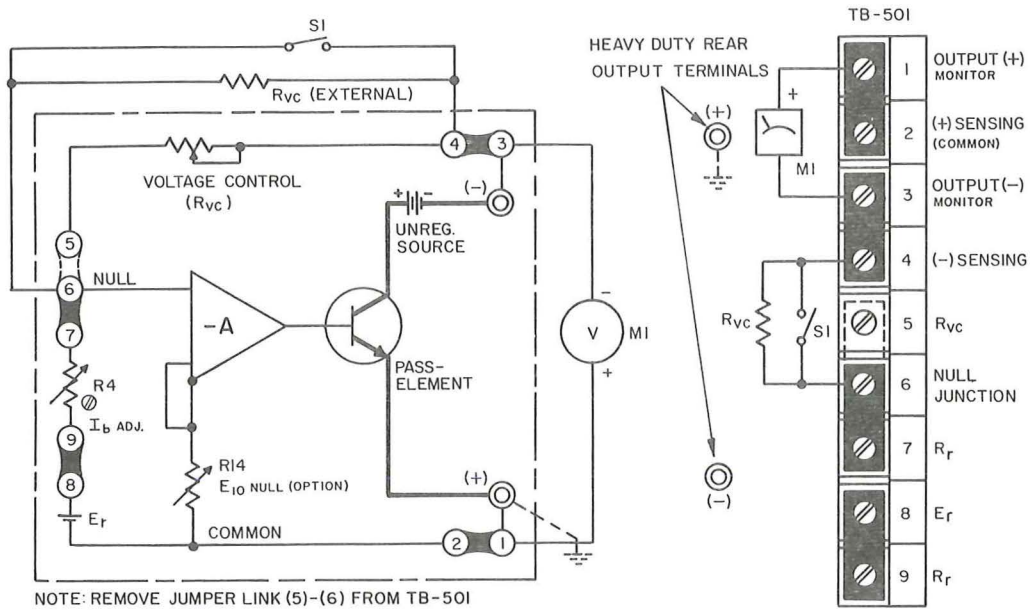

FIG. 3-4 CONNECTIONS FOR PRECISION PROGRAMMING RATIO ADJUSTMENT
3-16 PROCEDURE. PRECISION PROGRAMMING RATIO ADJUSTMENT (Refer to FIG. 3-4)
- b) Connect calibration set-up as shown in FIG. 3-4 and connect the power supply to the AC power line.